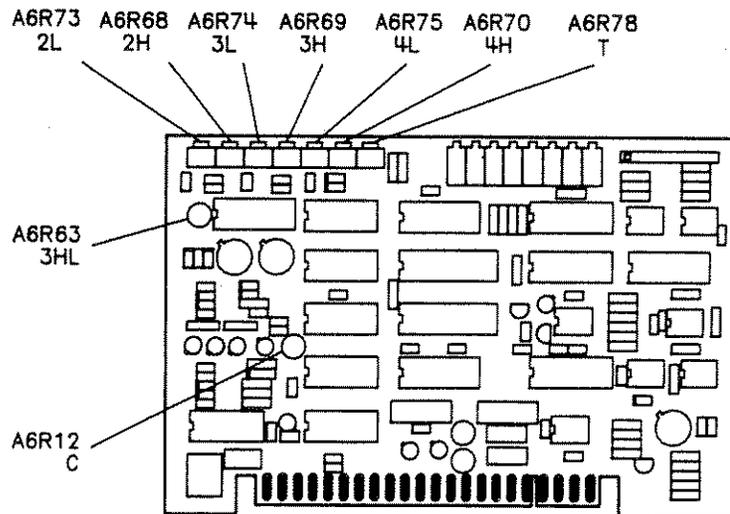

Figure 5-24. SRD Bias Adjustment Locations
4. Preset A6R78 (T) to 1/4 turn from full counterclockwise.
5. Adjust A6R73 (2L) and A6R68 (2H) until band 2 is at maximum power across the band. A6R73 adjusts the low frequency end of band 2 and A6R68 adjusts the high end. See figure 5-24 for adjustment locations.